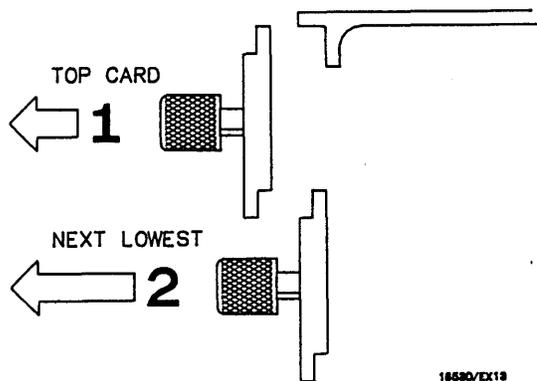

Figure 6-13. Endplate Overhang
- c. Starting from the top, begin pulling all filler panel(s) and card(s) out half way. See figure 6-13.